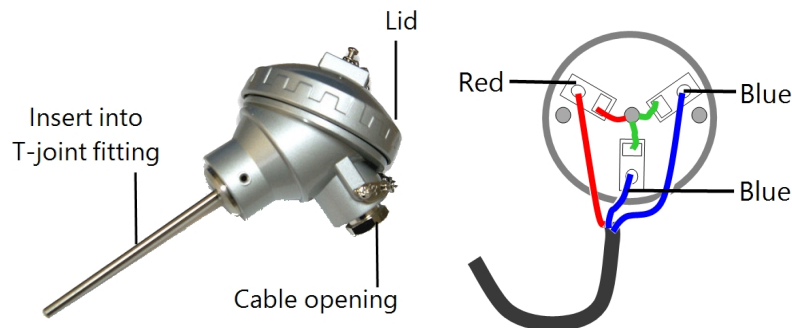

Figure 4: Sensor interfaces
4. Connect the sensor cable to the sensor See Figure 4.